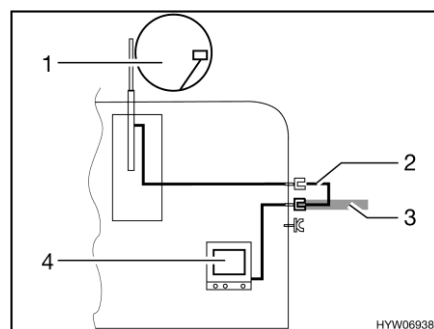

Fig. 205 TV inside the vehicle
- TV inside the vehicle (Fig. 205,4): Connection to roof antenna (Fig. 205,1) with connection cable (Fig. 205,2)
- TV inside the vehicle (Fig. 205,4): Connection to external antenna (Fig. 205,3)